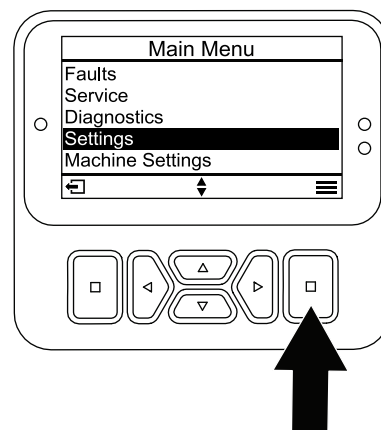

Figure 18
1. From the MAIN MENU, scroll down to SETTINGS and press the select button (Figure 18).